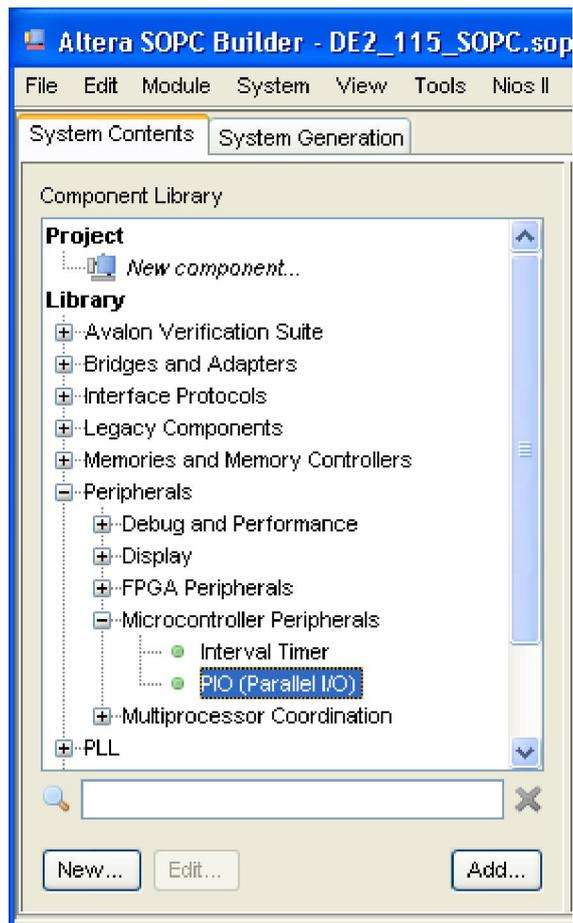
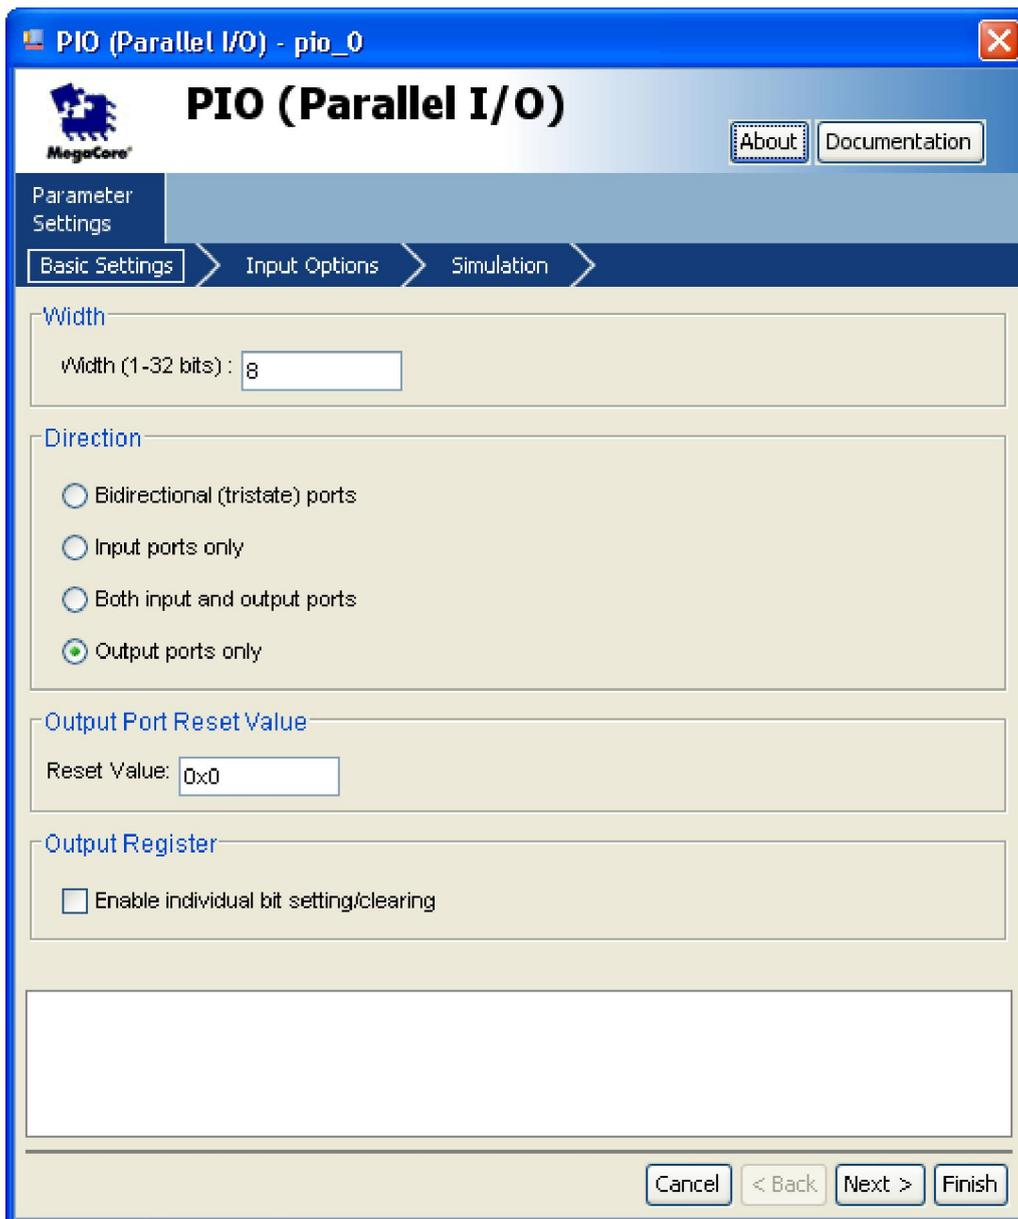

Figure 1-30 Add PIO
Figure 1-31 Add PIO
19. Choose **Library > Peripherals > Microcontroller Peripherals > PIO (Parallel I/O)** to open wizard of adding PIO. See **Figure 1-30** and **Figure 1-31**.